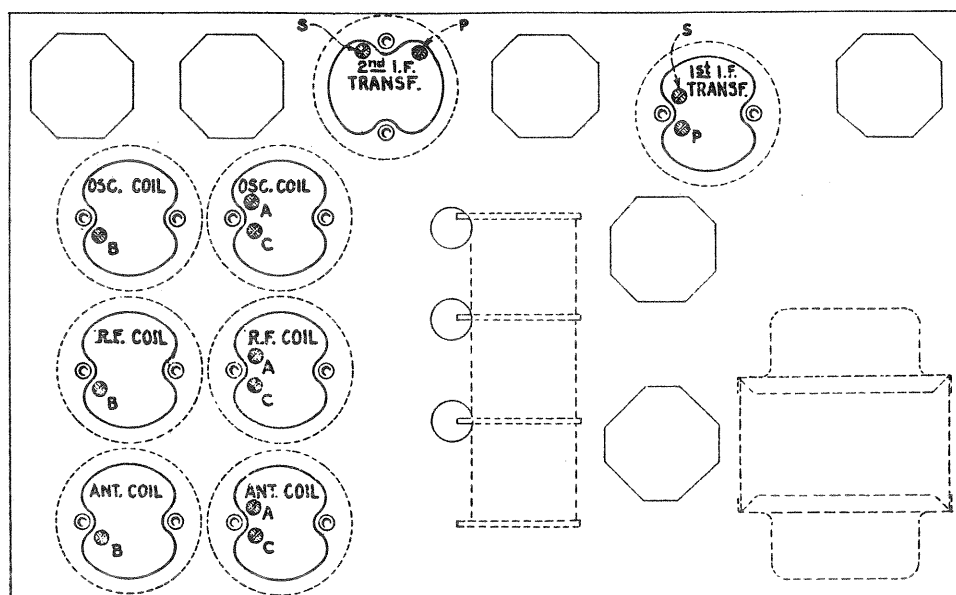

Figure 2—Location of Line-up Capacitors
- (c) Refer to Figure 2. Adjust the trimmers of the I. F. transformers until a maximum output is obtained. Go over the adjustments a second time.
Figure 2 shows the location of the trimmers for each band. Care must be exercised to only adjust the trimmers in the band under test.